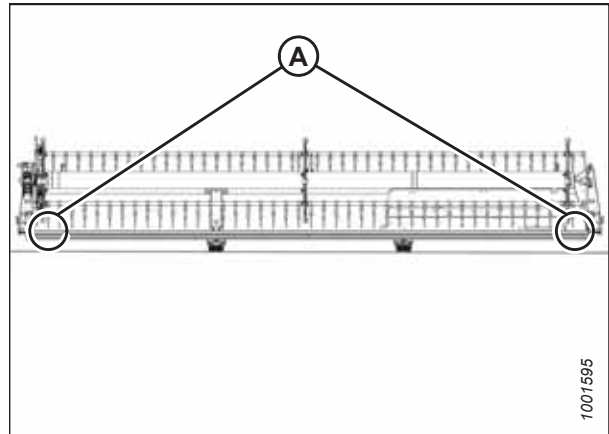

Figure 4.279: FlexDraper® Measurement Locations – Single Reel
- Single-reel headers: Figure 4.279, page 420